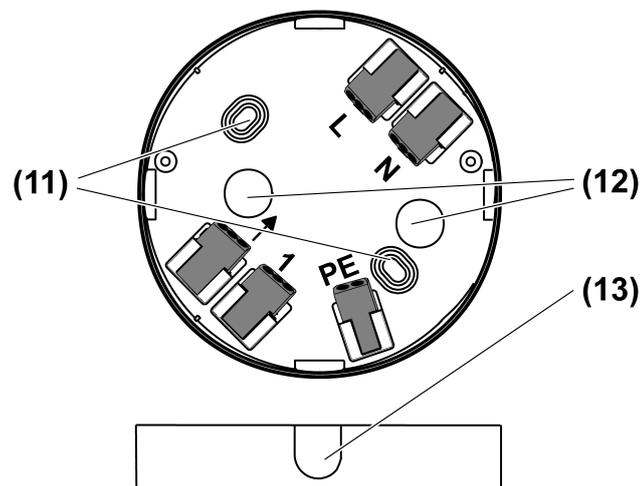

Figure 8: Connection box
- (11) Fastening holes
- (12) Cable entry, surface-mounted
- (13) Thin points for optional cable entries
- For an additional flush-mounted cable entry or surface-mounted cable entry, break out the appropriate thin point (13) (see figure 8).
- Fastening the connection box (1) through holes (11) (see figure 8).